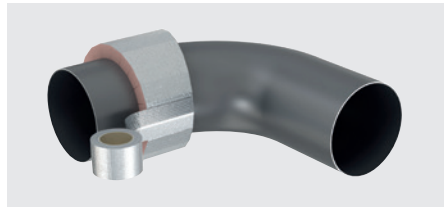

Figure 20: Joints sealed with foil vapour barrier tape
- Each mitred segment is applied with longitudinal joints vapour sealed with an appropriate self adhesive aluminium foil vapour barrier tape (Figure 20).